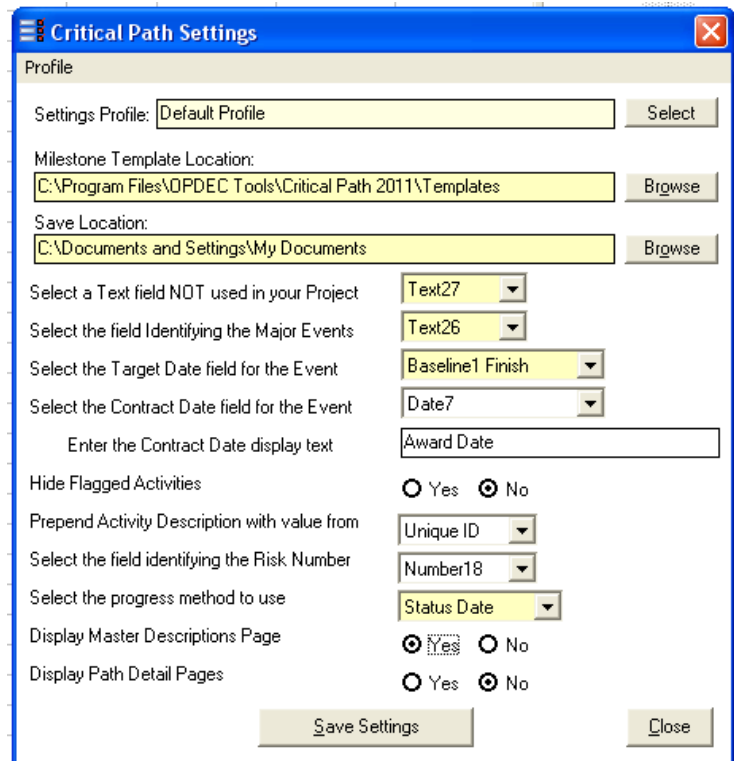

Figure 4
Before generating a critical path chart, the settings for the tool must be made (Figure 4). Select Tools from the OPDEC Critical Path menu bar and the settings dialog will appear. The fields that are highlighted in yellow are required fields.
- 1) Milestone Template Location – Default templates are available in the folder the tool was installed to. See Figure 4 for default installation location.
- a. Directory – this field is where the export utility will look for Milestone Professional files. This field is defaulted to the save directory specified in the Critical Path settings dialog (Figure 4). The browse button will allow you to select a different directory.